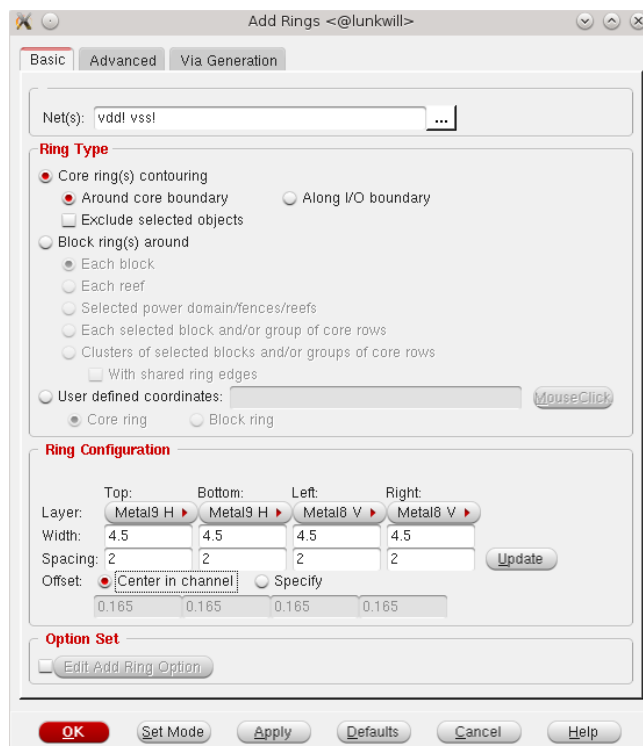

Figure 4.4: Add Rings window.
2. Enter the settings shown in Figure 4.4 and press OK.